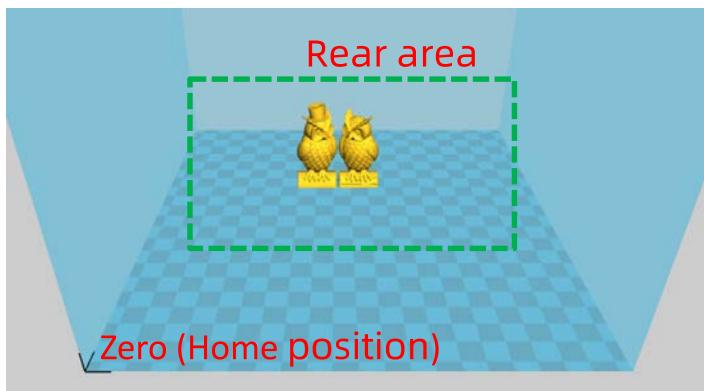
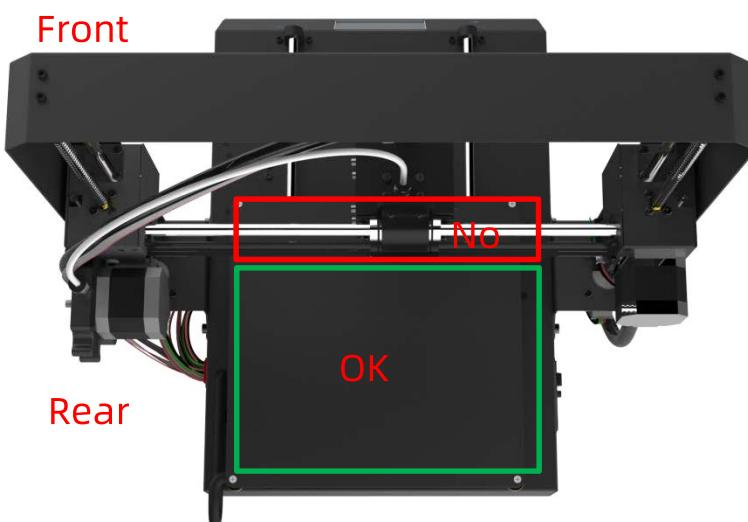

Figure 34
Figure 35
- As shown in Fig.34, Fig.35, in slicing software (i.e. Cura), it is required to place the model at the rear of the platform. Because during "RESUME", machine will home first and could touch/interfere with the unfinished object if the model was placed in the front area.